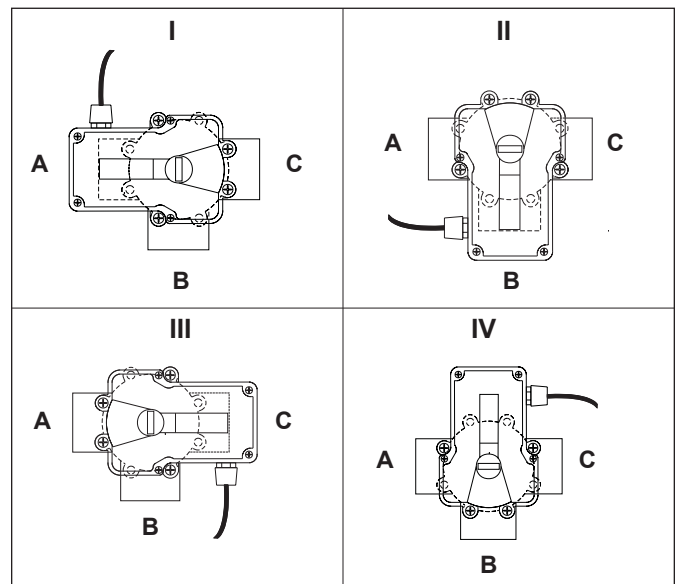
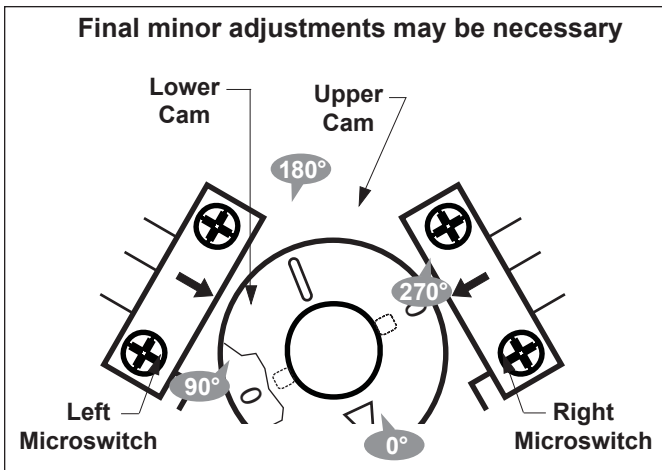

Figure 9. JVA Mounting Positions.
Figure 10. JVA Cams
**NOTE** Before resetting cams, if the valve is plumbed in **Standard Plumbing** position *and* the actuator is in **Standard Mounting** position *there is no need for resetting the cams* (see Figure 9). If a port other than "B" is plumbed as the common port or if the actuator is mounted other than **Standard Mounting**, the cam setting must be changed so the actuator shaft and the valve diverter rotate properly. Refer to the Cam Setting Chart on page 8 for proper settings.
2. Remove the four (4) Phillips head screws that secure the actuator lid and then remove the lid.
- Important** - Rotate the actuator shaft so the arrow mark on the top cam aligns with the microswitch actuator (bottom cam arrow mark should also align with the bottom microswitch actuator, see Figure 10). Locate the mounting position for the actuator (as per Figure 9, the mounting position will be either I, II, III, or IV). Next, determine what valve port is the common or inlet port (as per Figure 9, the common port will be either A, B, or C). Then refer to the Cam Setting Chart below to determine what the cam settings should be. For example, if the actuator is in JVA mounting position "I", and the common port on the valve is port "A", the cam settings would be 90° for the top cam and 180° for the bottom.